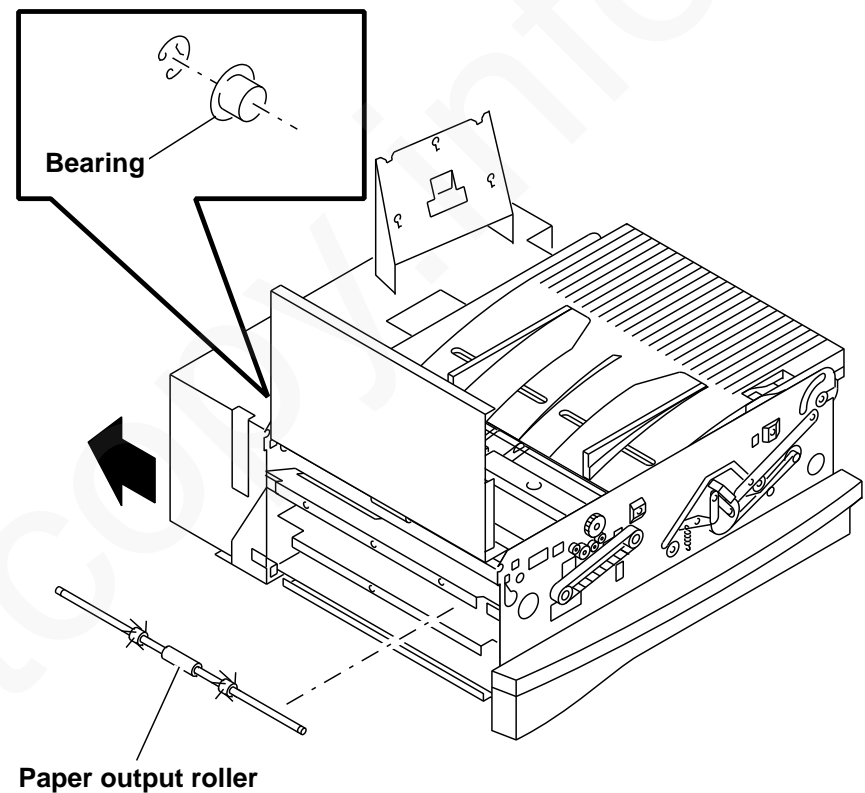

Figure 19. Paper output roller removal
- b. Remove E-ring and bearing from rear end of shaft (Figure 19).